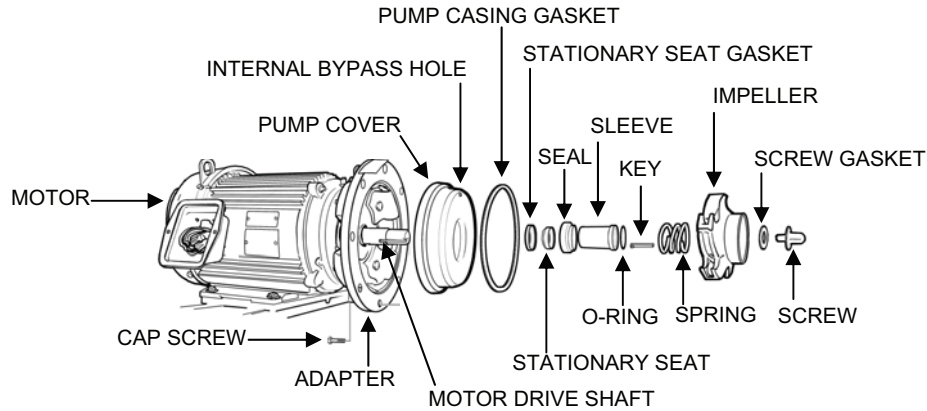

Figure 22. RO Feed Pump Installation.
6. Install a new seal kit (seal, stationary seat, seat gasket, and spring) and shaft sleeve as follows (see Figure 22):